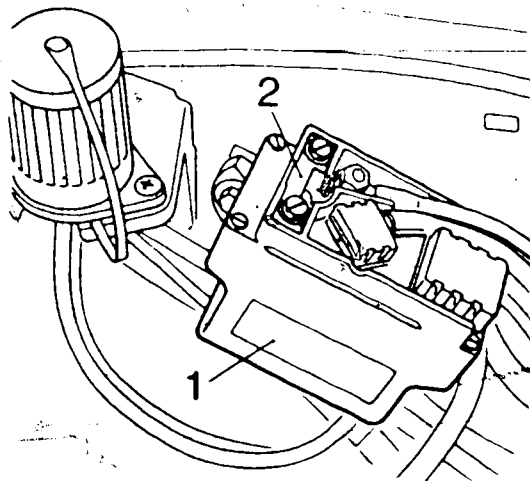

Fig. 1 1 = Glow-duration unit
3.6 The glow-duration unit (Fig. 1) is accommodated in the engine compartment on the left-hand wheel house.